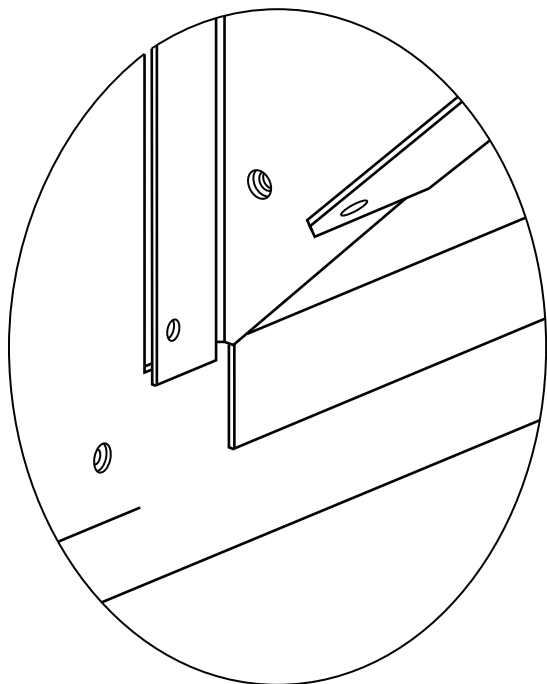

Fig. 12 — Hood Assembly Placed in Duct Work
4. Set the power exhaust hood assembly into the opening in the duct, bottom lip first as shown in Fig. 12.
5. Lift the assembly to allow the bottom corner tabs to hook over the opening in the duct work. (See Fig. 12.)